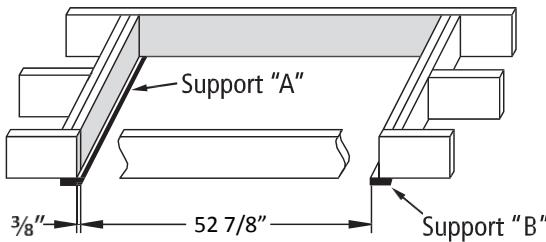

FIGURE 5: View from above
First locate support "A" at the end where the door hinge of the ladder will go. The edge of support "A" should extend into the rough opening  $\frac{3}{8}$ " as shown in figure 5. Make sure both screws penetrate header above ceiling.
B. Measuring from the inside edge of support "A", locate and secure the inside edge of support "B"  $52\frac{7}{8}$ " from inside edge of support "A" (Figure 5). Make sure both screws penetrate header above ceiling.